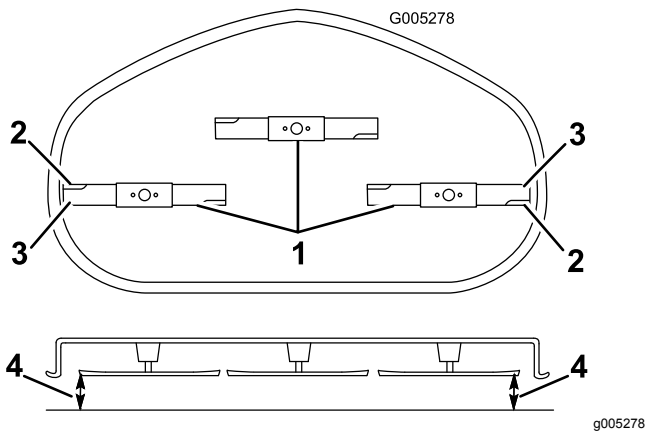

Figure 55
- Carefully rotate the blades so that they are all side to side (Figure 55).
5. Measure between the outside cutting edges and the flat surface (Figure 55).